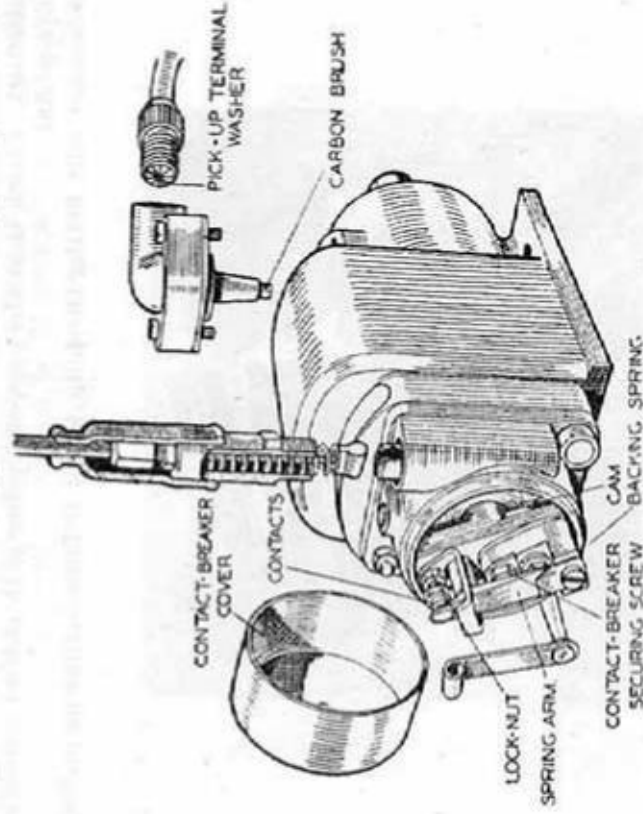

Fig. 38. SHOWING DETAILS OF LUCAS TYPE N.I. MAGNETO FITTED TO MATCHLESS MOTOR-CYCLES
(3) If the feeler gauge just slides in without friction, the gap is correct and no adjustment is needed. If the gauge is a slack fit or the contacts have to be sprung to enable it to enter, adjust the gap as below.
(4) With the magneto spanner loosen the nut which secures the fixed contact screw (see Fig. 38) and then adjust this screw by means of its hexagon head until the correct gap is obtained between the fixed and movable contacts.
(5) Retighten the contact screw lock-nut and again check the gap. If correct, replace the contact-breaker cover.
When cleaning and dressing the contacts, it is essential to remove the minimum amount of contact metal necessary to ensure: (a) brightness of the contacts, (b) parallelism of the contacts, (c) perfect smoothness and true faces. To ensure this, remove the spring arm (see Fig. 38) carrying the movable contact by withdrawing the fixing screw and spring washer. When replacing the arm, be sure to fit the small backing spring in its original position, with the curved portion facing *outwards* as shown in Fig. 38.
Renewing Cable for Spark Control. As may be seen in Fig. 38 slackness in the cable for advancing and retarding the spark can be rectified by means of the cable stop after pushing the rubber protector upwards and slackening the lock-nut. If, however, the cable frays, breaks, or stretches unduly, it is necessary to renew the cable in the following manner.
Clean Slip-ring Occasionally. Misfiring and difficult starting are sometimes caused by moisture, oil, or dirt collecting on the slip-ring. About every 2000-3000 miles remove the H.T. pick-up (see Fig. 38) from the magneto and thoroughly clean the track and flanges of the slip-ring. The best way of doing this is to cover a pencil with a soft cloth and press this against the slip ring while slowly rotating the engine.
The H.T. Pick-up. When occasion is had to clean the slip-ring, also wipe the pick-up moulding and polish it with a fine, dry, cloth. Inspect the moulding for cracks and examine the carbon brush (see Fig. 38) and spring, but be careful not to stretch the spring. If the carbon brush is badly worn, renew it.